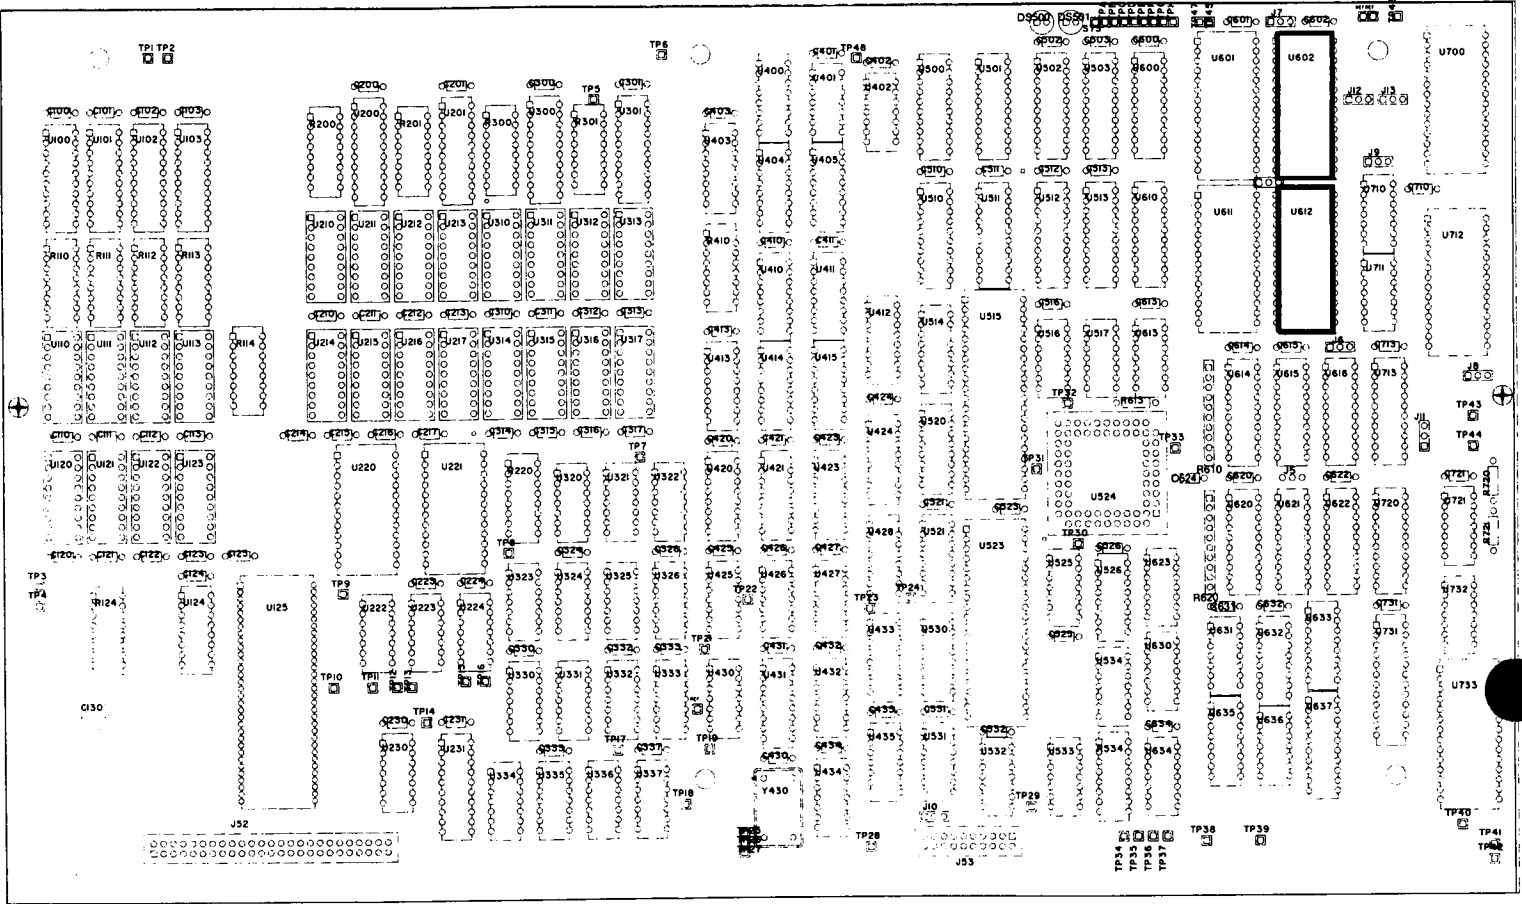

Figure 4 - Display Controller Circuit Board A7.
- () 10. Remove U602 and U612, microcircuits, located on the Display Controller circuit board A7, and replace with the new microcircuits U602, pn 160-3716-XX, and U612, pn 160-3717-XX, provided in this kit. (refer to Figure 4 for component locations).